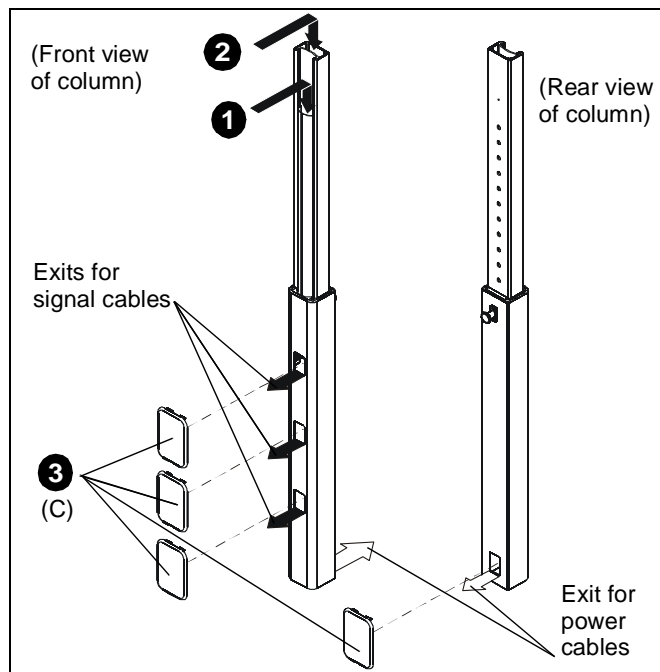

Figure 8
1. Signal cables can be run down the front flap of the upright and out the front of the upright at any of the openings. (See Figure 8)
2. Any accessory power cords can be run through the front and down through the upright to exit out the back. (See Figure 8)
3. Install the snap-on covers (C) to any opening that is not being used. (See Figure 8)